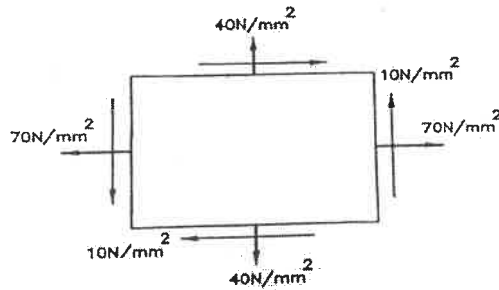

Fig. 08 [For Que 4(B) or (B)]
(B) For an element shown in Fig.08. Find Principal stresses and location of corresponding principal planes (use analytical method only). 05
(B) An element shown in Fig. 08. Find maximum shear stress and location of the plane containing it. (use analytical method only). 05